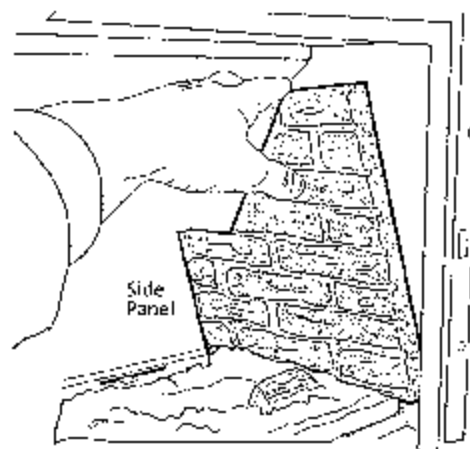

Figure 20. Install the Side Panel.
- 4. Install the Side Panels.** Engage the bottom edge of each side panel between the Logset Base and the firebox wall and push the panel forward against the front lip of the firebox opening. See Fig. 20.